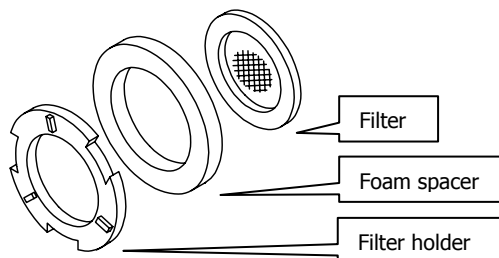

Figure 44 Filter, foam spacer and filter holder
5. Identify the next available filter position, remove the foam and filter holder, place the filter in the hole and place the foam spacer on top of it. Figure 44 illustrates the assembly sequence.